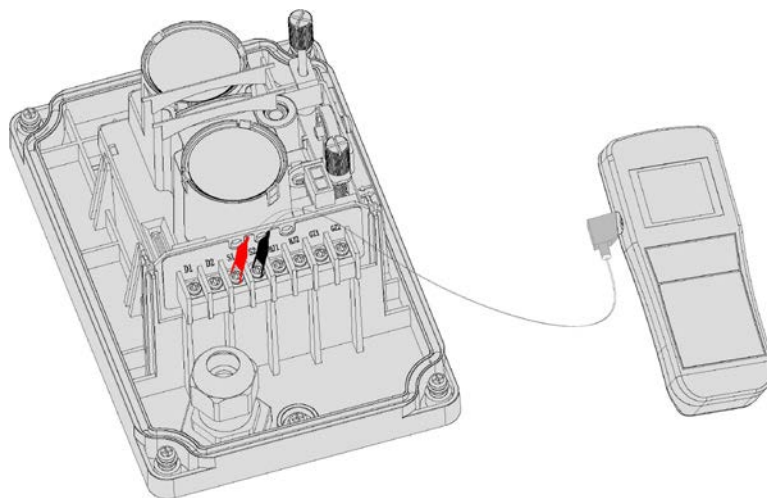

Figure 8: Programming connection Details
The TX7130 sensitivity and the operation range can be adjusted through hand held programmer on project site. The programmer can be purchased separately. It is mandatory for the commissioning personnel have programmer tool in order to adjust the detector according to the site situation and environmental requirement. Refer to Figure 8.
- b. Once you located the mark, loosen the M4x12 screw and adjust the horizontal or vertical adjustment wheel until the Laser beam mark at the centre of the mirror. Refer to figure 8.